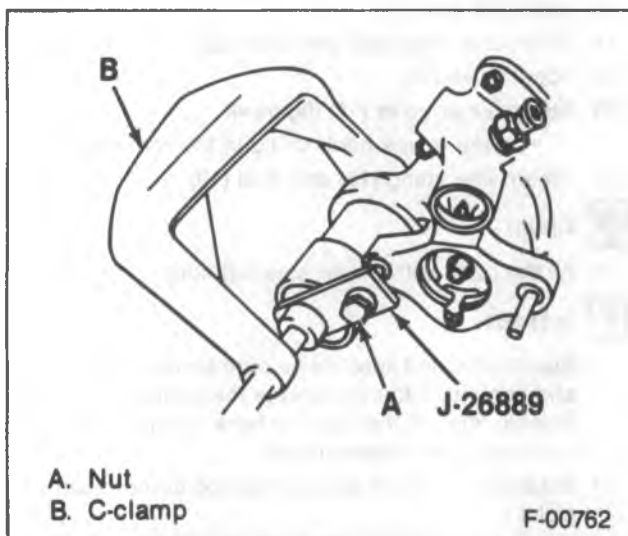
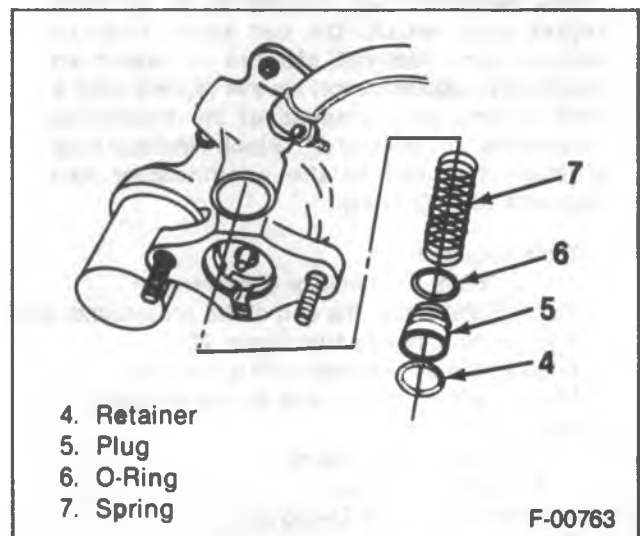
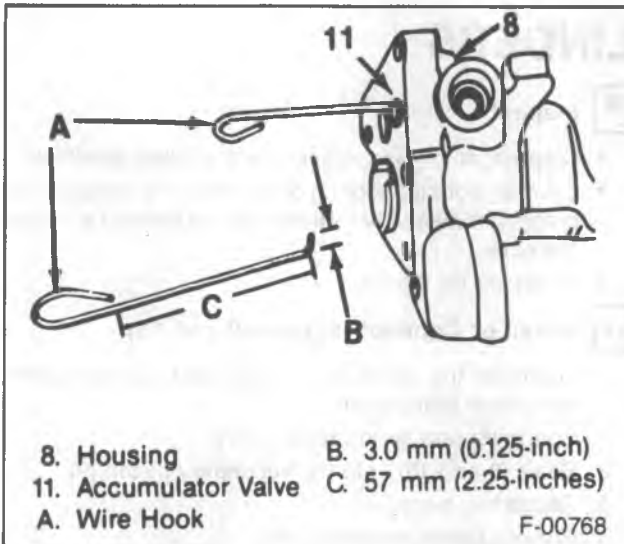
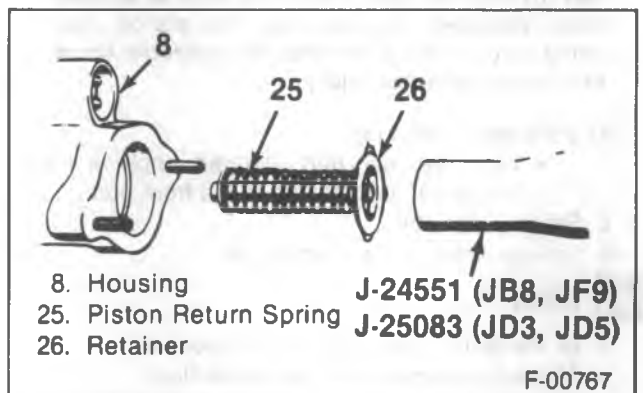

Figure 2—Removing the Accumulator
Figure 3—Removing the Plug and Spring
Figure 4—Removing the Accumulator Valve
Figure 8—Installing the Output Rod Retainer
- Place J 26889 over the end of the accumulator and install a nut onto the stud (figure 2).
1. Retainer (1).
2. Accumulator (2) and O-ring (3).
3. Retainer (4).
4. Plug (5), O-ring (6) and spring (7) (figure 3).
5. Retainer (26).
6. Output pushrod (28), baffle (27), piston return spring (25) and retainer (24).
- Saw off the eyelet of the pedal rod (20).
7. Boot (19).
8. Nut (18) and bracket (17).
9. Bolts (9).
- Separate the cover (16) from the housing (8).
11. Piston assembly (22) and seal (23).
12. Spool valve (13).
13. Accumulator valve (11) (figure 4).
14. Return line fitting (12) and seal (10).
- 10. Boot (19).
- 11. Output pushrod (28), baffle (27), piston return spring (25) and retainer (24) by using J 24551-A or J 25083 (figure 8).
- 12. Retainer (26).
- 13. Spring (7), O-ring (6) and plug (5) (figure 3).
- 14. Retainer (4).
- 15. O-ring (3) and accumulator (2) by using J 26889 and a C-clamp (figure 2).
- Depress the accumulator (2).
- 16. Retainer (1).